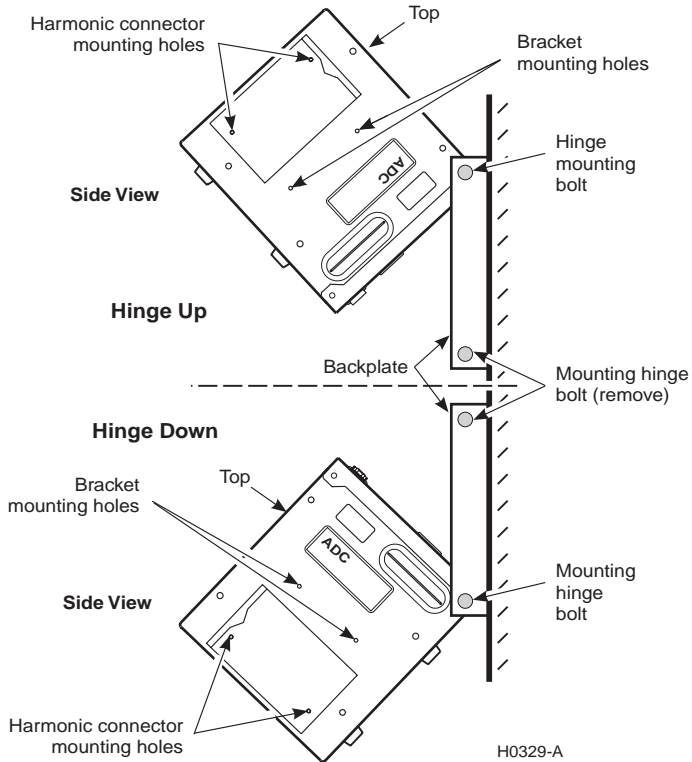

Figure 2. *Wall Mounting and Hinging View*
- 2 Attach the rack mounting brackets to the bracket mounting holes (Figure 2) on each side panel with the four bracket attaching screws and locking nuts.